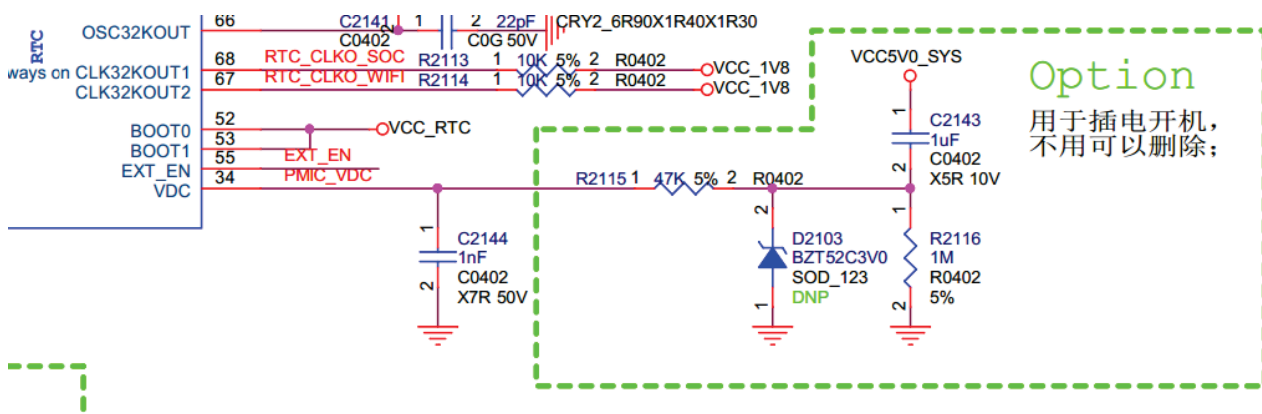

Figure 3-30 VDC Application circuit 2
- In the product, it needs to be automatically boot and can be powered down using power-key. The level of VDS must be pulled-up when PMIC boots, and should be pulled-down after about 500ms. Shown as Figure 3-30.